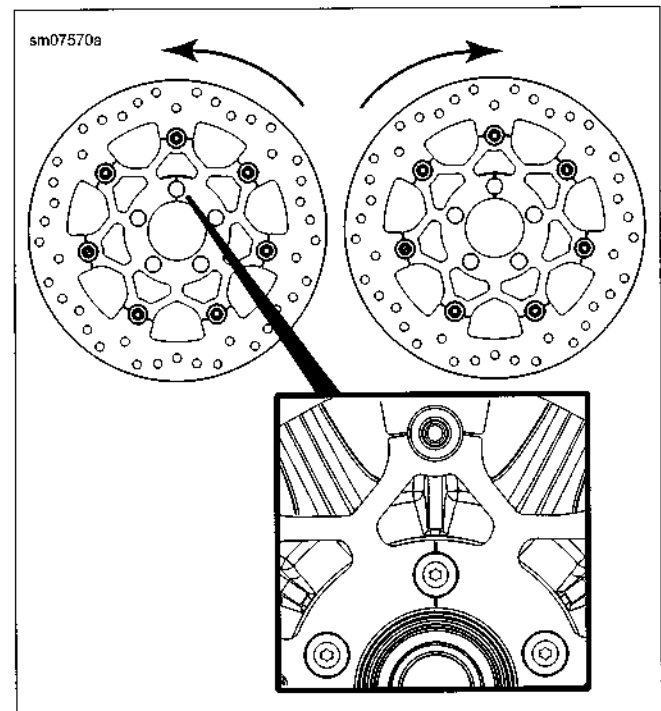

Figure 2-15. Dual Disc Alignment Marks: XL 883R
3. See Figure 2-15. Rotate brake disc to alignment disc marks with center of spoke.